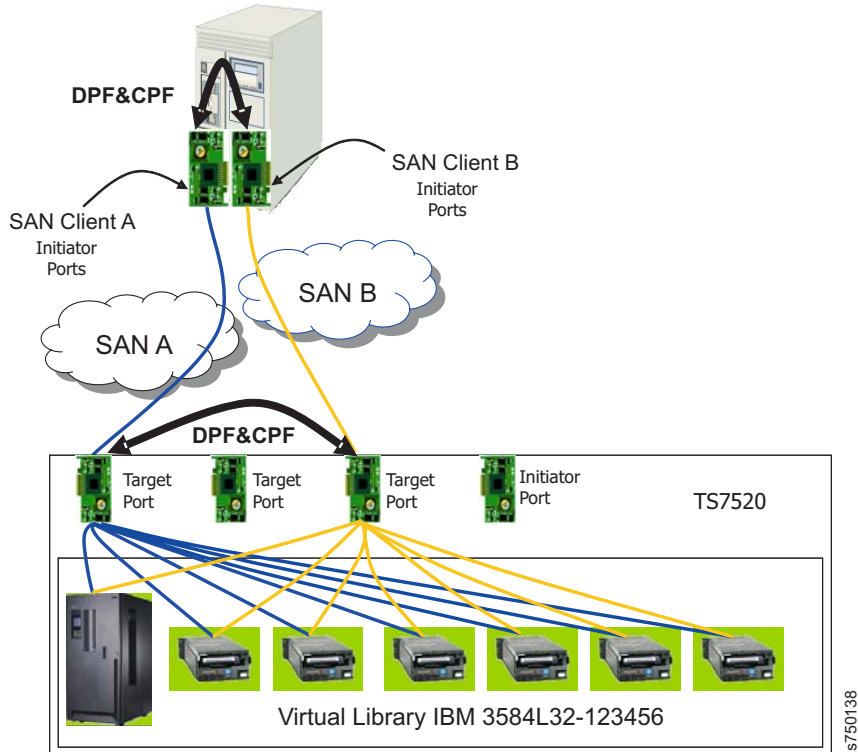

Figure 81. Path Failover, host system and TS7500 Virtualization Engine configuration
Figure 81 shows an example of Path Failover configuration between a host system and a TS7500 Virtualization Engine. The host system has two initiator ports, labeled *SAN Client A* and *SAN Client B*, available for connection to the TS7500 Virtualization Engine. The TS7500 Virtualization Engine has two target ports, labeled *Target Port 1* and *Target Port 2*, available for attachment to the host system. *SAN Client A* and *Target Port 1* are in one zone, *SAN A*, while *SAN Client B* and *Target Port 2* are in a second zone, *SAN B*. A virtual tape library, named *Virtual Library IBM 3584L32-123456*, is assigned to both *SAN* clients. All virtual tape drives in the virtual tape library have Control Path Failover and Data Path Failover support.
3. ___ Ensure that two SAN zones are available and zone one target port to one initiator port and the other target port to the other initiator port similar to the example in Figure 81 on page 105.